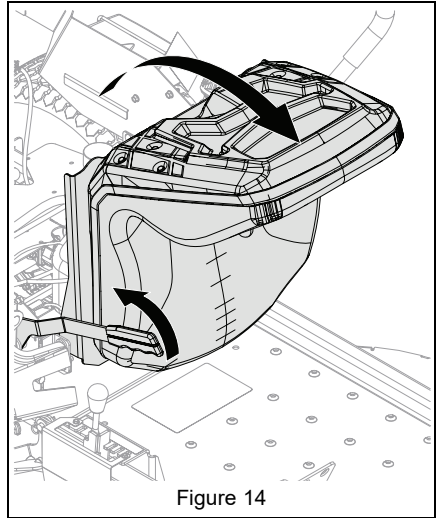

Figure 14
7. Rotate seat forward. See Figure 14.